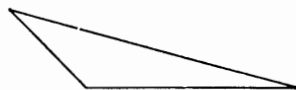

Fig. 34
28. An *Obtuse-Angled Triangle* is one which has one of its angles obtuse. Fig. 34.